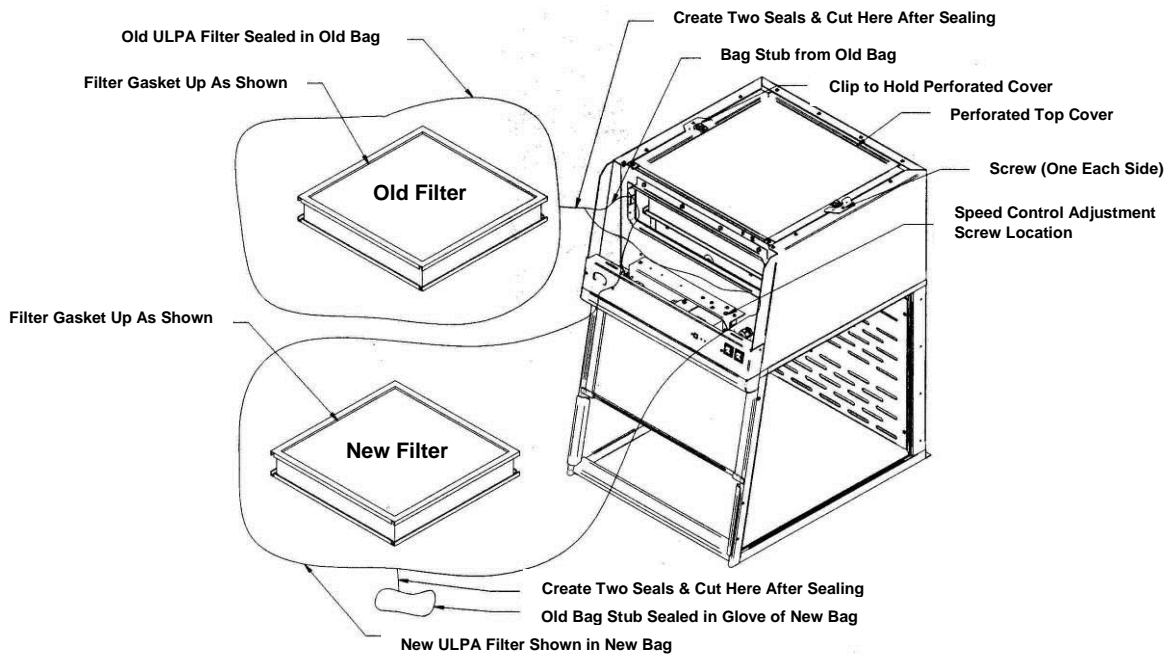

Figure 6-1
The XPert line of enclosures include a true bag-in/bag-out filter disposal system for safely removing the ULPA filter and protect the worker from toxic powders and particulates. See Figures 6-1 for the Bag-In/Bag-Out Procedure. For your safety, wear appropriate personal protective equipment during the change of filters. If working with biohazardous materials, use the decontamination procedure outlined in this chapter. (Consult your Safety Officer before performing filter changes).
After installing the new ULPA filter, the filter should be leak checked. This test is performed to determine the integrity of the ULPA filter, the filter housing, and the filter mounting frames. Leak testing is to be done by a qualified technician with calibrated equipment. Remove the top perforated exhaust cover by using a Phillips screwdriver to unfasten the (2) screws used to secure (2) clips. See Figure 6-1. The filter passes the leak test at .01% or better. Reference Leak Testing and Photometer scanning from the Institute of Environmental Services (IES-RP-CC001.3)
1. Remove the front panel by loosening the (2) Phillips screws on top that secure the front panel.
2. The speed control is located on the electrical subassembly located behind the switched control panel and below the front panel. See Figure 6-1.